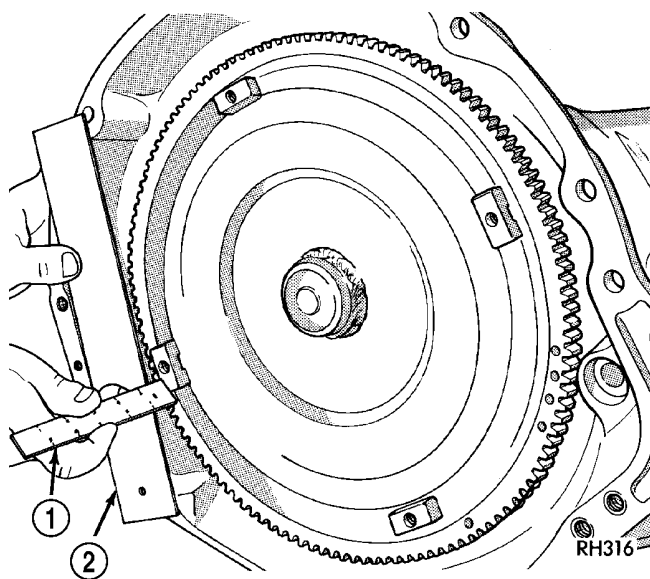

Fig. 98 Checking Torque Converter Seating
(3) Align torque converter to oil pump seal opening.
(4) Insert torque converter hub into oil pump.
(5) While pushing torque converter inward, rotate converter until converter is fully seated in the oil pump gears.
(6) Check converter seating with a scale and straightedge (Fig. 98). Surface of converter lugs should be 1/2 in. to rear of straightedge when converter is fully seated.
(7) If necessary, temporarily secure converter with C-clamp attached to the converter housing.
(8) Install the transmission in the vehicle. (Refer to 21 - TRANSMISSION/TRANSAXLE/AUTOMATIC - 31TH - INSTALLATION)
(9) Fill the transmission with the recommended fluid.